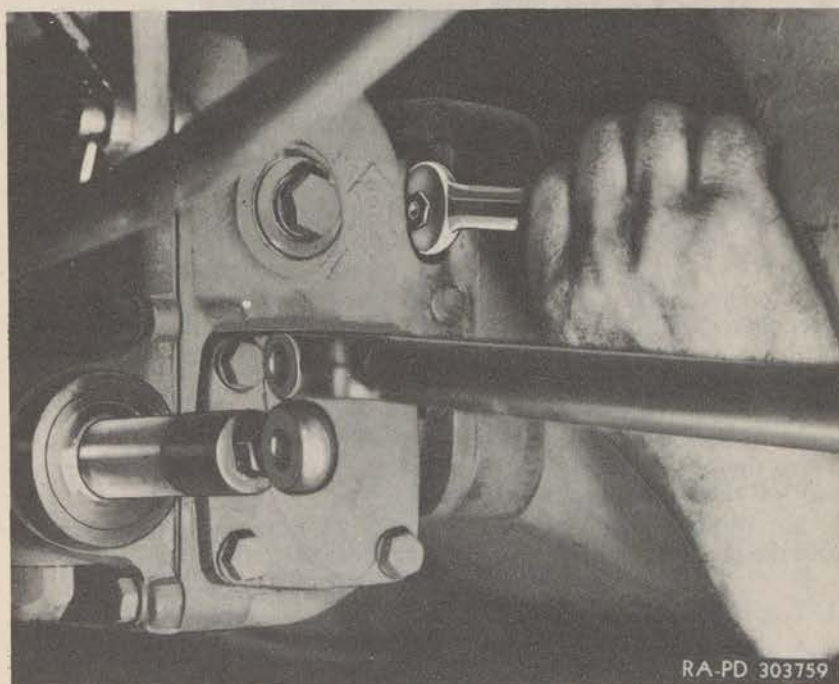

Figure 170—Tightening Power Take-off Mounting Stud Nuts
b. **Install Power Take-off Assembly.** Install a new gasket over the studs and against the adapter, lift the power take-off assembly into position and push it over the studs. Replace the stud nuts and lock washers which were removed, and tighten them gradually to avoid any strain on the power take-off housing (fig. 170).